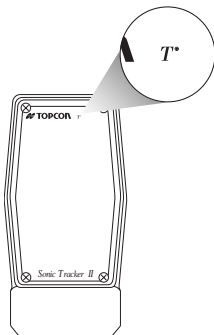

Figure 40. Temperature Bail Symbol Indicating Code Revision
4. Tracker can also be checked by verifying code revision. Turn box off and back on. Watch the temperature bail symbol in the top right portion of the tracker (Figure 40). The “T” symbol will flash a certain number of times, pause and flash again to indicate the revision of its code.